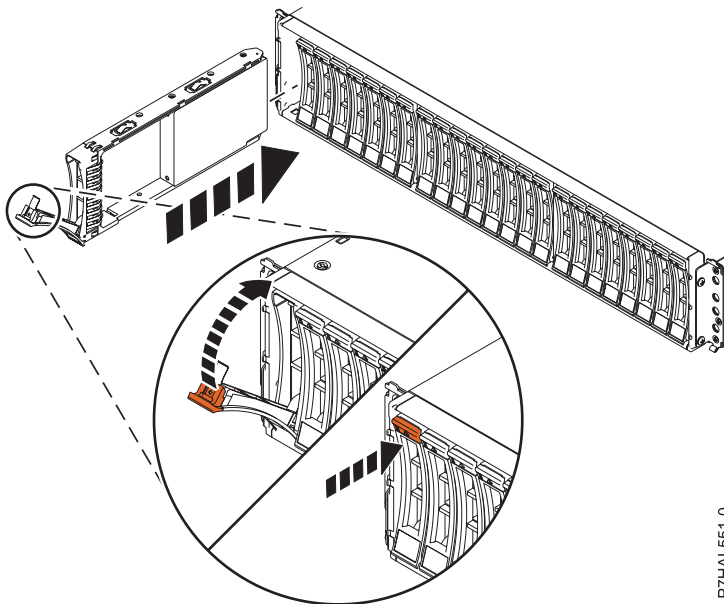

Figure 4. Installing the disk drive in the 58/87 disk drive enclosure
1. With the handle in the unlocked position, as shown in Figure 4, support the bottom of the drive as you align it with the guide rails in the expansion unit.